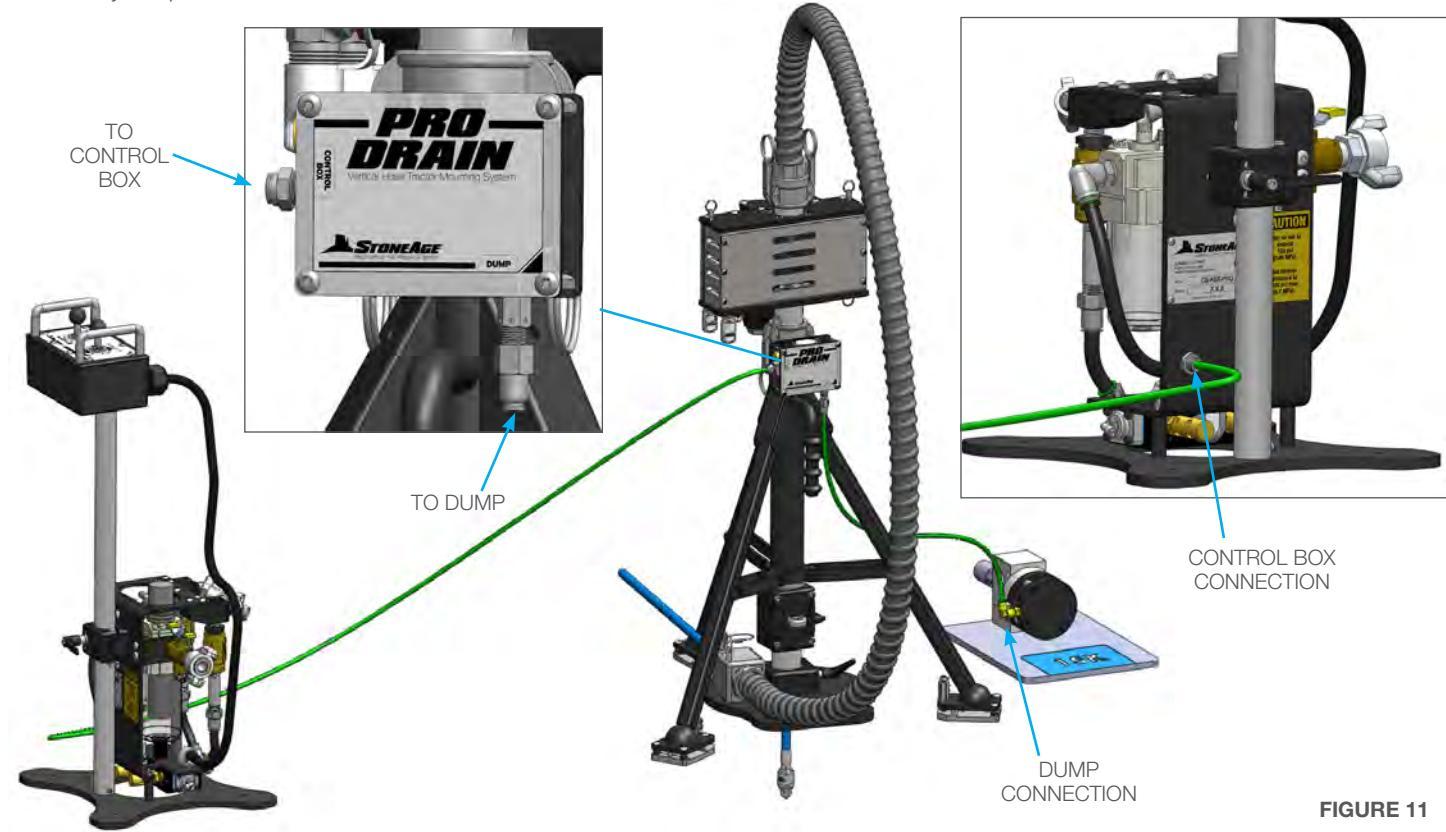

FIGURE 11
13. Connect 1/4" air lines from Control Box to the valve assembly on the Tripod Stand and from the Tripod Stand to the Dump. (**Figure 11**)